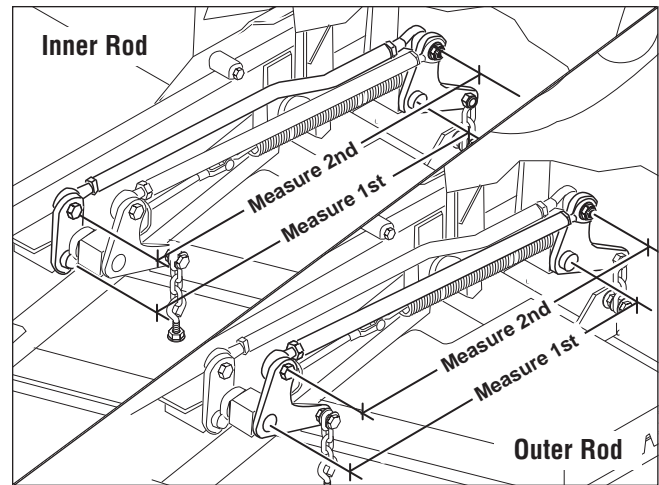

Figure 40. Measure the Inner & Outer Lift Rods
2. To check the inner lift rod timing, measure and record the distance between the inner lift pivots and the inner rod pivots. Repeat for other side of unit. See Figure 40.
3. To check the outer lift rod timing, measure and record the distance between the outer lift pivots and the outer rod pivots. Repeat for other side of unit. See Figure 40.